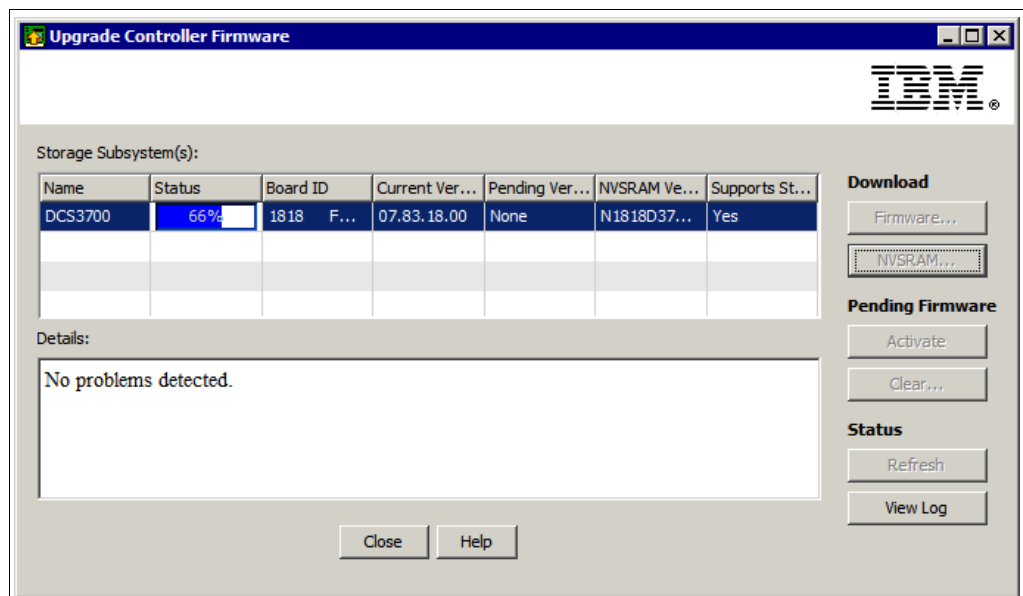

Figure 14-19 Transferring the firmware and NVSRAM
- c. The status of the transfer of the firmware and NVSRAM can be monitored in the tool, as shown in Figure 14-19.